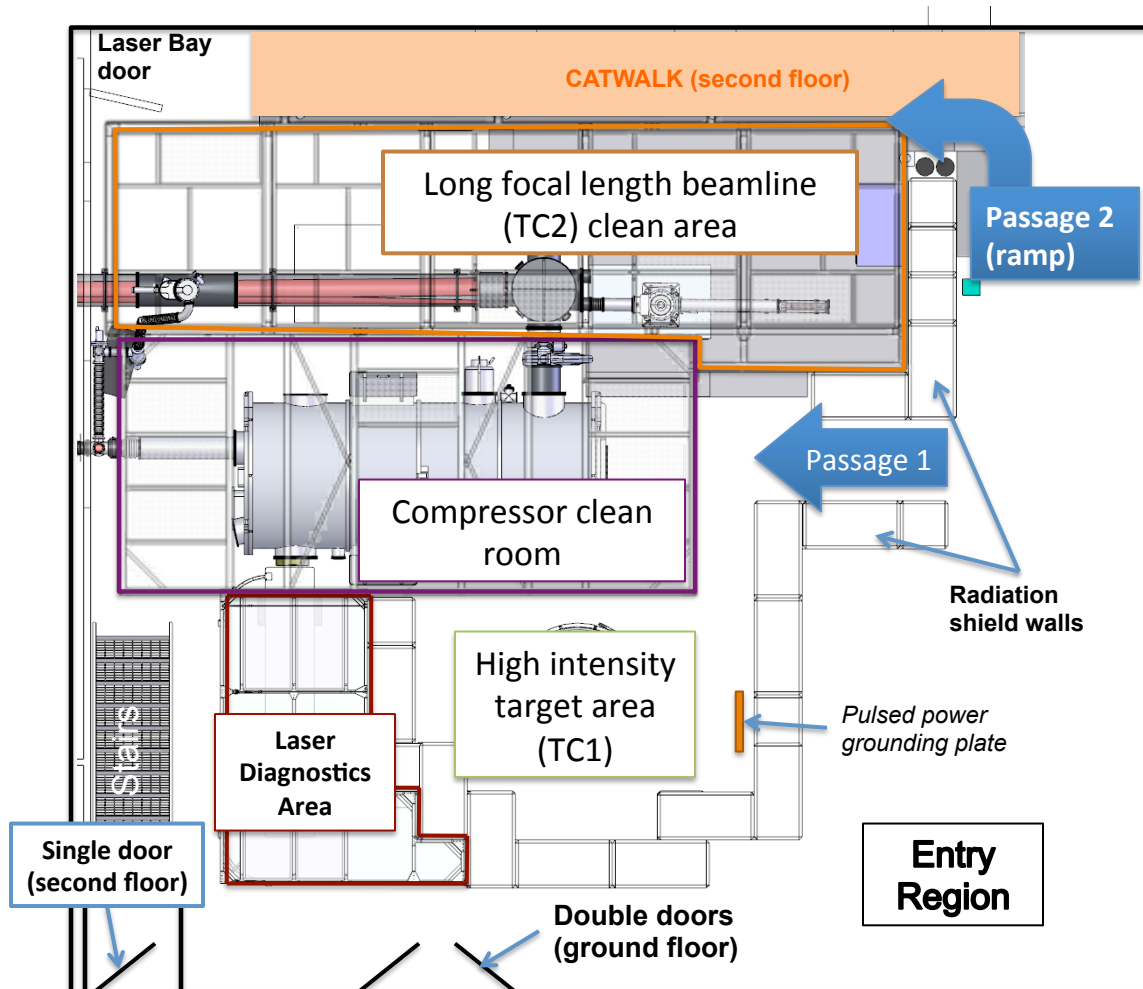

Figure 2 Layout within the Target Bay. Black dashed lines indicate the boundary of the Entry Region. South is on top.
The Target Bay is a controlled access area within the Texas Petawatt High Bay that shares its east wall with the Laser Bay (see Figure 2). The various regions within the Target Bay are illustrated in Figure 2, and outlined below. Three cleanroom curtained regions define the Target System Clean Area, the Compressor Cleanroom, and the Laser Diagnostic Area. The Compressor Cleanroom and Diagnostic Area can only be accessed with authorization and guidance of a Laser Operator in accordance with TPW-D-0011. A catwalk overlooks the Target Bay but can only be accessed with authorization and guidance of a Pulsed Power System Operator (pulsed power RI), as described in TPW-D-0012.
The Laser Diagnostics Area is a clean area enclosed by laser/cleanroom curtains, with the radiation shield wall along one side, as indicated with a red boundary in Figure 2. Access to this area is controlled by Laser Operators, and those inside must follow cleanroom protocol outlined in Section 5 and in TPW-D-0011. Careful passage to TC2 may be permitted through this area.
The Compressor Cleanroom is enclosed by cleanroom curtains and is indicated with a purple boundary in Figure 2. Access to this area is controlled by Laser Operators, and those inside must follow cleanroom protocol outlined in Section 5 and in TPW-D-0011. Slight intrusion into this cleanroom will be allowed for gowned experimentalists working on TC1 when the compressor is under vacuum.
The high f-number beamline clean area is indicated by an orange boundary in Figure 2. The high f-number target vessel, or TC2, is in this region. Cleanroom garb requirements depend on the status of the target chambers, as detailed in Section 5. Operation of the vacuum systems connected to the target chambers is restricted to specific authorized personnel, as described in Section 3.1.4. Under certain conditions, a sweep for residual activated nuclei will be performed after a shot before users are allowed access to the chambers. These rules are described in Section 4.4.2.
Passage from the Entry Area to the Target Clean Area (i.e., TC2) is achieved via Passage 1 and Passage 2 in Figure 2. Passage 2 follows a ramp onto raised flooring, while Passage 1 remains at ground level. Passage 1 also leads to the TC1 target area. Because beam height is five feet relative to ground level, the laser operators may restrict access to Passage 1 under certain conditions.
The beam height at the output of the compressor is 5 feet above ground in the target area, which is near eye height for many users. The beam at TC2 is slowly focusing and so stays at dangerous intensities over long distances. Also, the probe beam enters the TC2 target chamber at this beam height. For this reason, raised-access flooring at 1 foot height has been installed in the area immediately around the target chambers of TC2. Flooring panels can bear a load of 1000 lbs per panel and pressures up to 1000 psi. Panels can be moved or altered to allow for equipment that is heavy or needing better stability. Passageway 2 (Figure 2) follows a ramp to the raised flooring while approaching a line of site to the target chamber.
A catwalk extends over the Target Bay and certain experimental diagnostics may be mounted there. The catwalk is accessed from the passageway to the pulsed power room (not shown in Figure 2), and high voltage lines run along it. For this reason, users desiring access to the catwalk must be certified as pulsed power authorized personnel as dictated in the Pulsed Power OSP, document TPW-D-0012. The Pulsed Power Operators (RIs) control access to the catwalk and pulsed power room.
- **High Voltage Hazard:** The high voltage delivered from the Pulsed Power (see OSP TPW-D-0012) can present a lethal electric shock hazard. The grounding terminal for this system is located in the Target Bay (Figure 2). High voltage power supplies for experimental apparatus also poses an electrical shock risk.